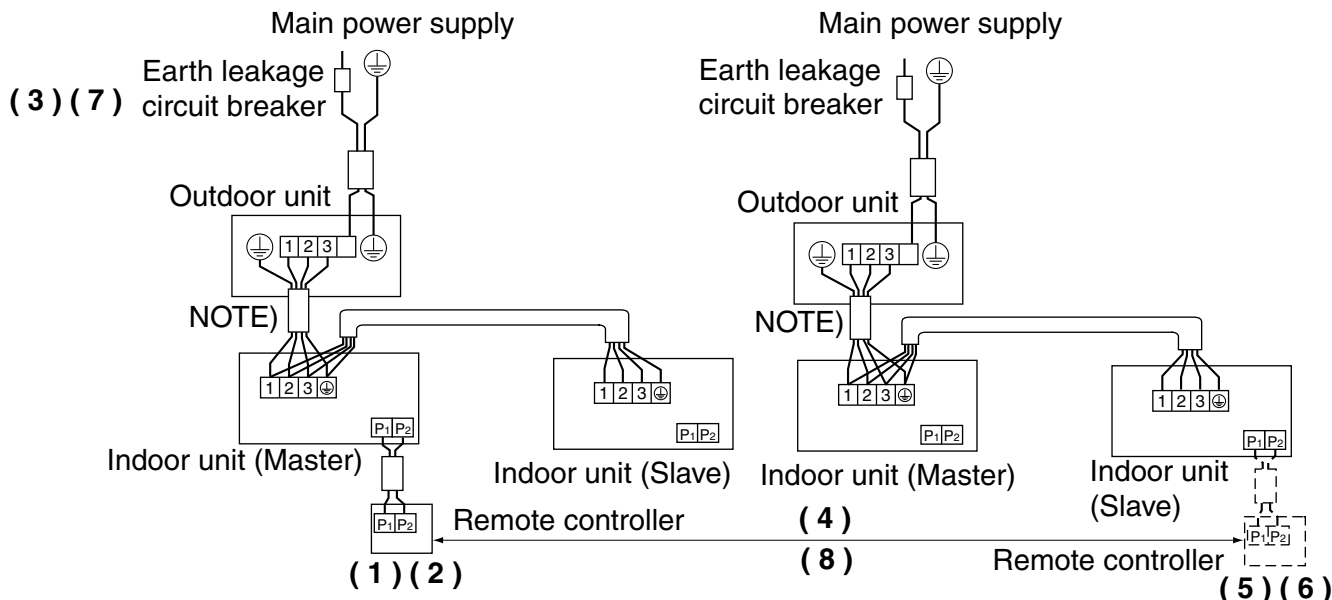

Fig. 31
- Perform the following procedure when setting the master and slave unit separately. (Refer to Fig. 31)
- (1) Change the SECOND CODE NO. to “02”, individual setting, so that the slave unit can be individually set. (Refer to Table 10)